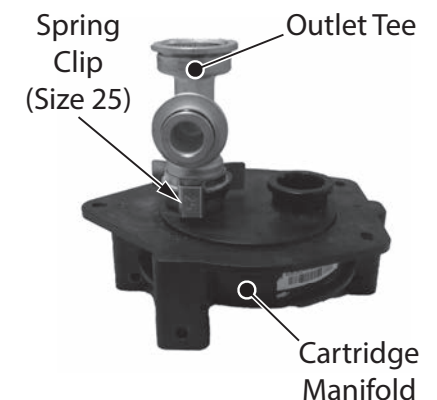

Figure 245 - Remove spring clip from outlet tee and cartridge manifold
- 17** Remove the small spring clip (size 25) securing outlet tee to cartridge manifold as shown in Figure 245. Place spring clip aside in a safe place for reinstallation. Separate outlet tee from cartridge manifold.